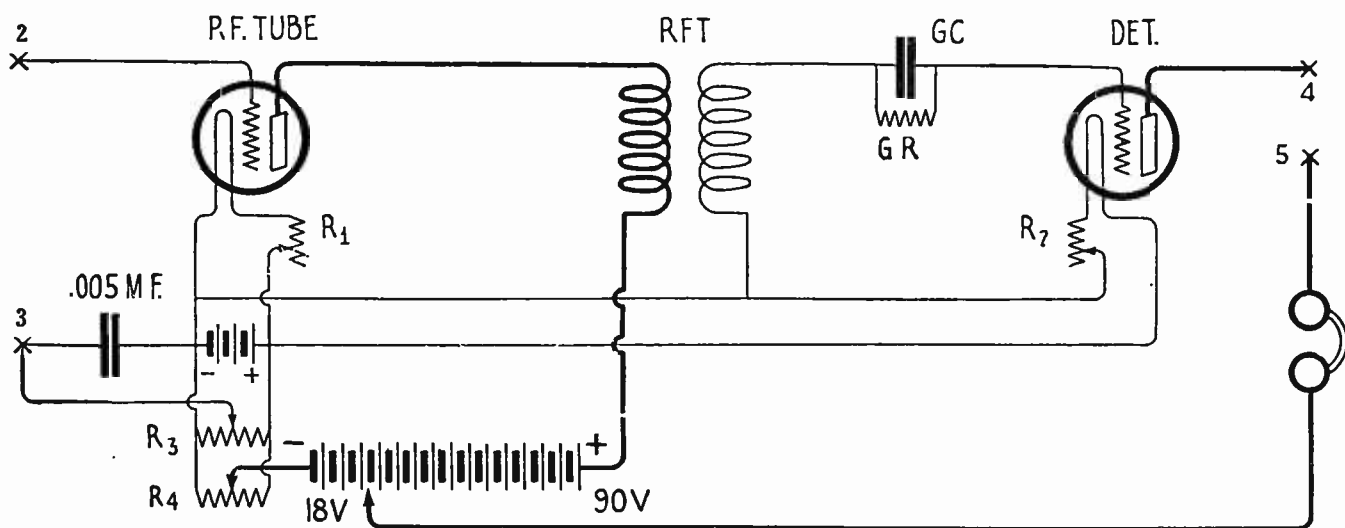

FIG. 1
PROVIDED with a circuit of the type shown in Fig. 1, it is possible for us to obtain many interesting and satisfactory results from almost any of the more common forms of receivers. Last month the application of a circuit of this variety to three-circuit tuners and loop antennas was explained, and now some comment upon applying radio-frequency to a single-circuit receiver may be of interest.
To begin with, the single-circuit receiver used in conjunction with Fig. 1, may be regenerative or non-regenerative, depending upon what is used to connect  $X^4$  and  $X^5$ . For simplicity of operation, the non-regenerative method may be used, but where long distance and greater selectivity are sought, regeneration is helpful. If a short piece of wire connects  $X^4$  and  $X^5$ , the regenerative action of the detector tube is not brought into play, but a variometer or the tickler coil of the common single-circuit regenerator inserted between these two points will, on the other hand, take advantage of re-
1. The great distance that is possible with a single tube. *A score of contestants have heard stations more than 1,500 miles away*, while 1,000-mile reception is common. A dozen or so report an aggregate mileage of more than 50,000 (the record is 111,240 miles, made by Russell Sheehy. His circuit is given in Fig. 1), and many have identified more than sixty different broadcasting stations!